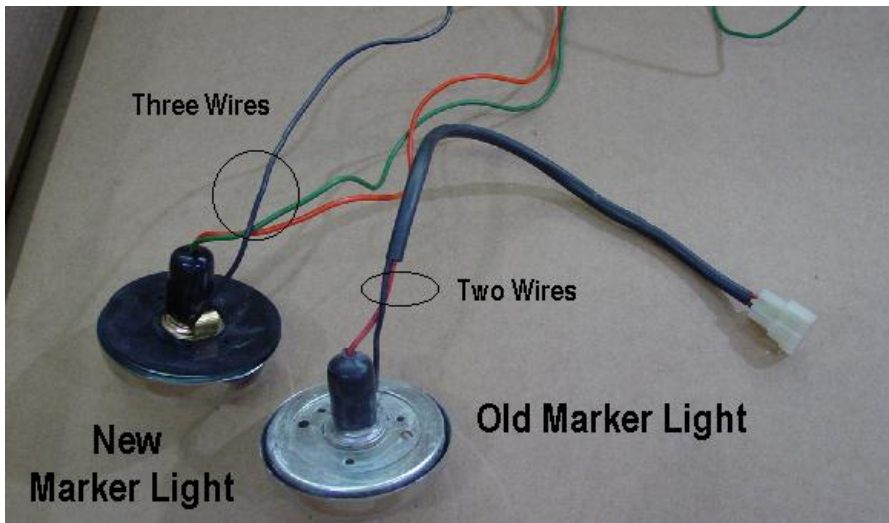

Fig. 7
9. Remove the old marker light assembly Fig. 7. To remove the lens, twist it counter clockwise.